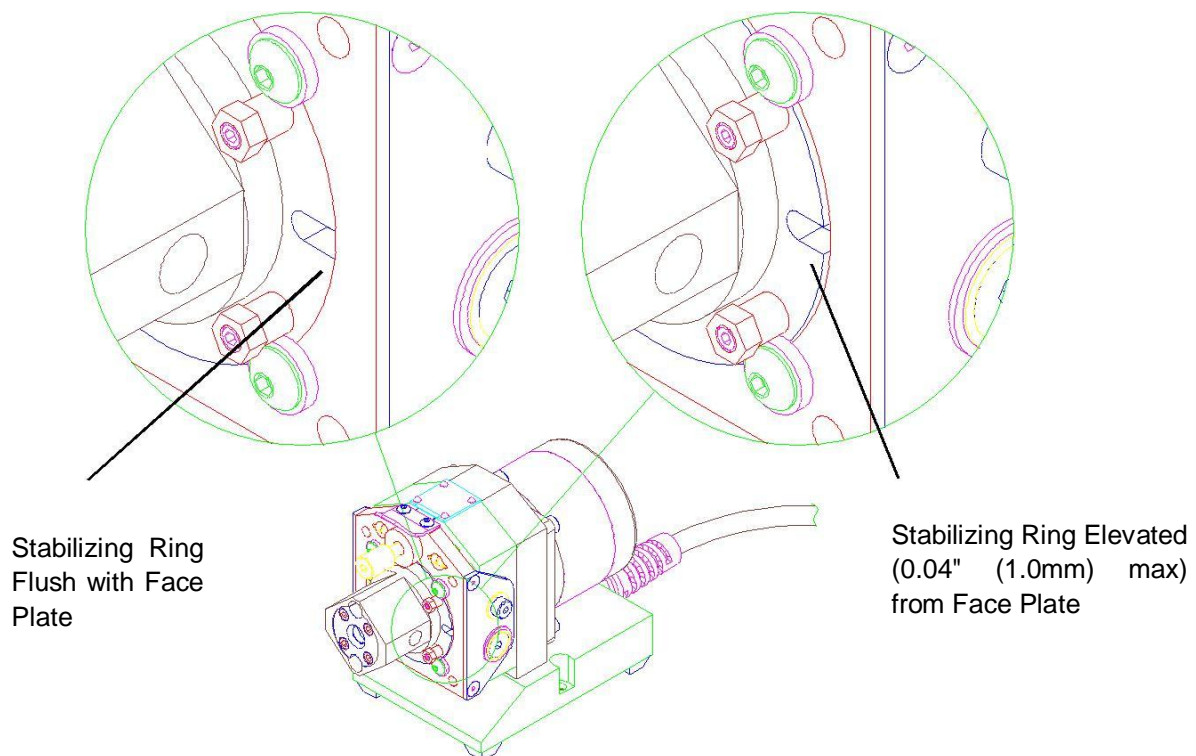

Figure 5.5 Stabilization Adjustment
The following steps describe the procedure for adjusting the pump module for neutral discharge. In general, a neutral position is established when the pump module stabilizing ring is flush with the face plate. In this position, the set screws (2) are not in contact with the face plate. (See Figure 5.5)
2. Loosen, do not remove, two stabilizing lock nuts (3) and back out (counterclockwise) the #4-40 x .38" long socket set screws (2) so they don't contact the Motor/Base Module (4).
3. Loosen, do not remove, four #6-32 x .31" Long Button Head Socket Cap Screws (1) then retighten evenly to 10 in-lbs.
4. Turn each #4-40 x .38" long socket set screw (2) clockwise until it seats and tighten its corresponding stabilizing lock nut (3). Do not exceed 5 in-lbs. of torque when tightening stabilizing lock nuts (3).